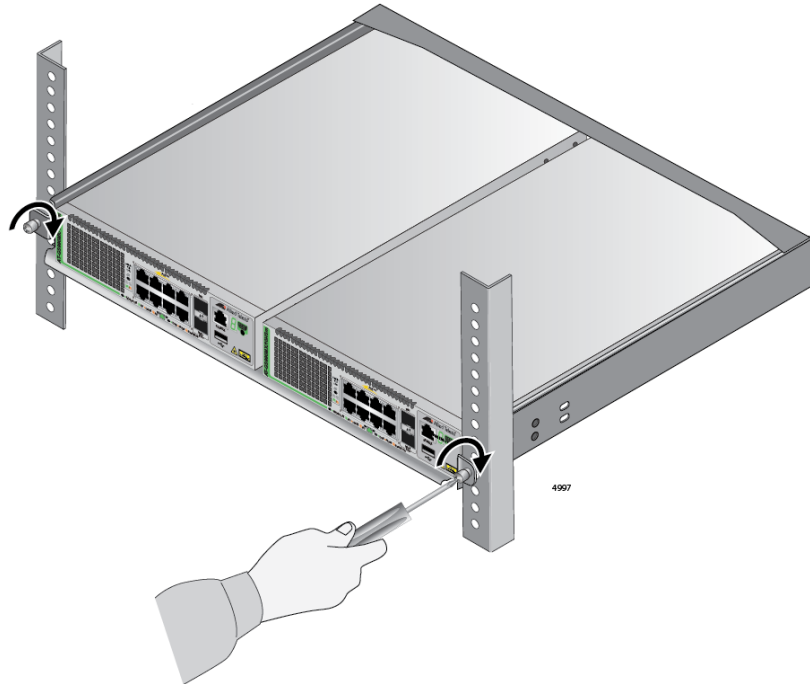

Figure 49. Tightening the Two Thumbscrews on the RKMT-J15 bracket.
8. Tighten the two thumbscrews to secure the bracket to the rack. Refer to Figure 49.